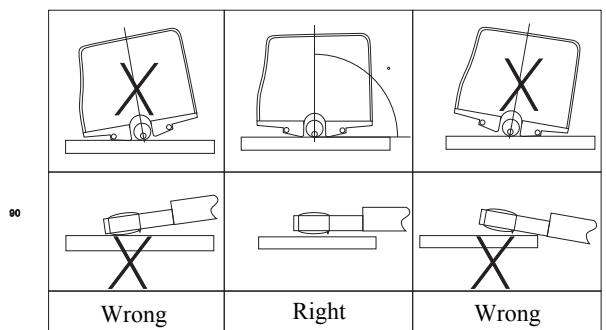

Figure 4-1
- H. Place the instrument according to Figure 4-1, 4-2 to ensure accurate and reliable wiring.